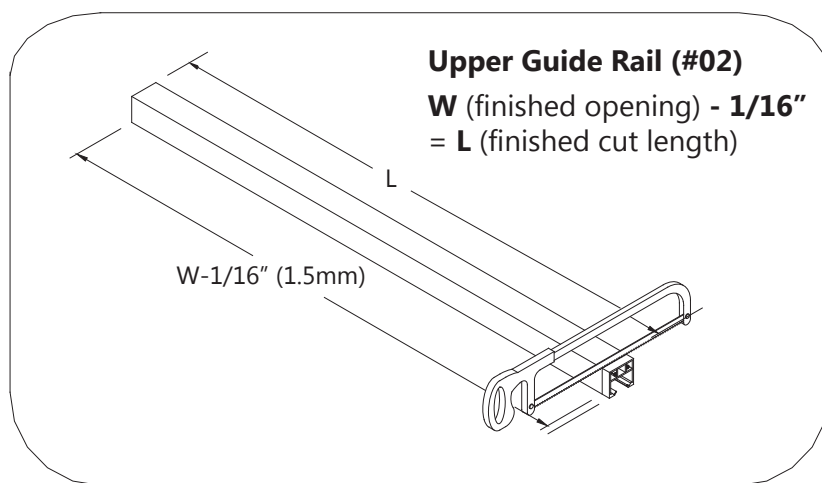

Fig 2a
2. Using a miter saw or hacksaw, cut the **Upper Guide Rail (#02)** $1/16''$ shorter than the top dimension **W** from step #1. ($W - 1/16'' = \text{finished cut length } L$) (see Fig 2a)
See Fig 2a & 2b for details